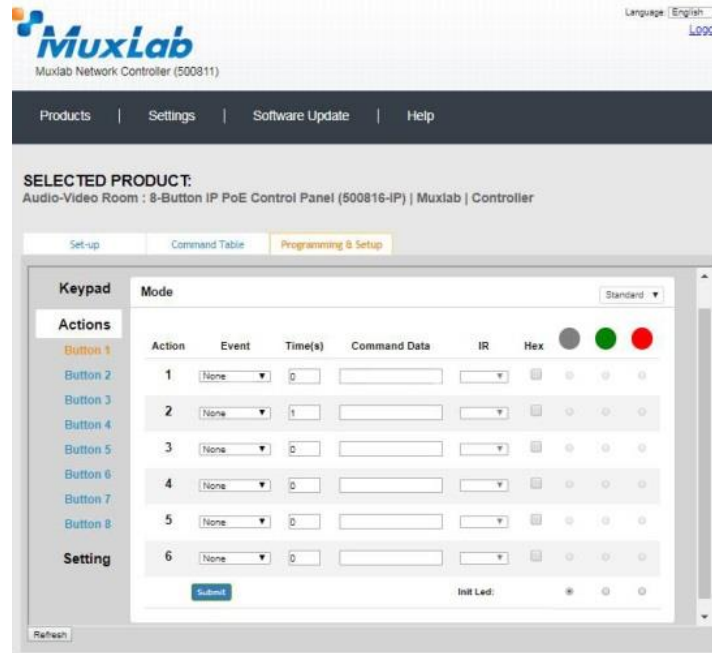

Figure 348: Programming & Setup Tab – Actions
- Actions: Allows the user to program commands for all 8 buttons (Figure 348).
- Select the “Times” value - Each button press can execute up to 6 events. A time delay between each event can be set. Time(S) is the time delay set between 2 events (in seconds). As there is just one command in this example, select time = “0”.